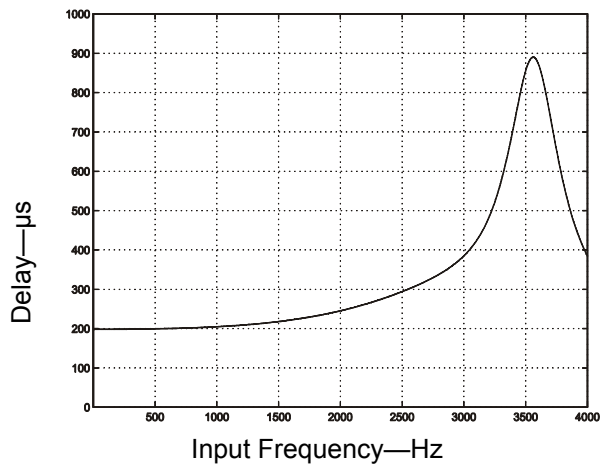

Figure 17. IIR Receive Group Delay
**Note:** Typical IIR filter characteristics for  $F_s = 8000$  Hz are shown in Figures 13, 14, 15, and 16. Figures 17 and 18 show group delay versus input frequency.